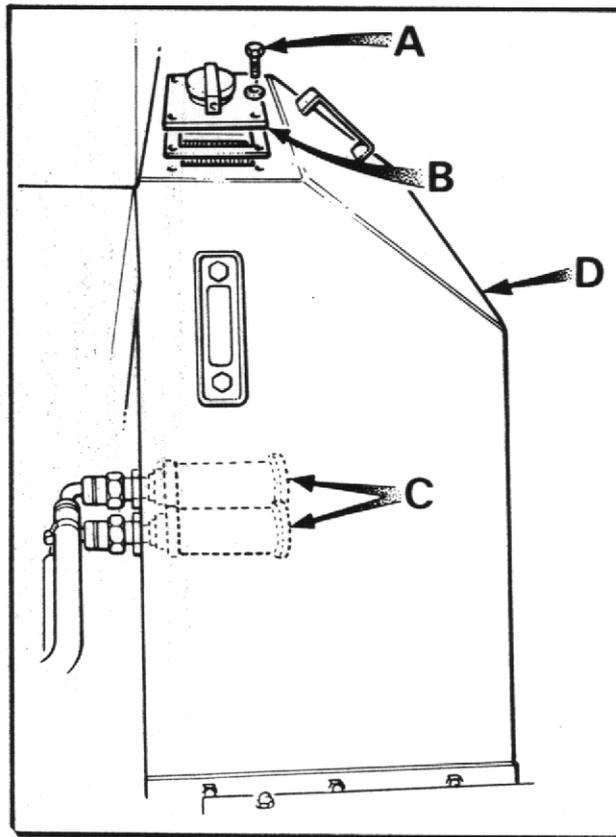

Fig.5
2. Check that neither filter is blocked (See Fig.5).
- a) Remove the four setscrews (A) that secure the filler cap assembly (B) and remove assembly.
- b) Unscrew suction filters (C) from inside tank (D) and wash in white spirit. Dry with moisture free compressed air.